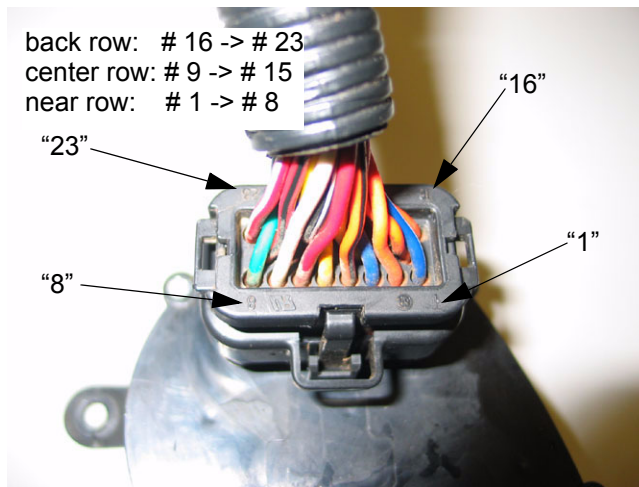

Figure 2.13
2.13. The pin numbers are indicated on the molded connector. See Figure 2.13.
2.14. Each number corresponds to a pin position on the instrument panel. See Figure 2.13.